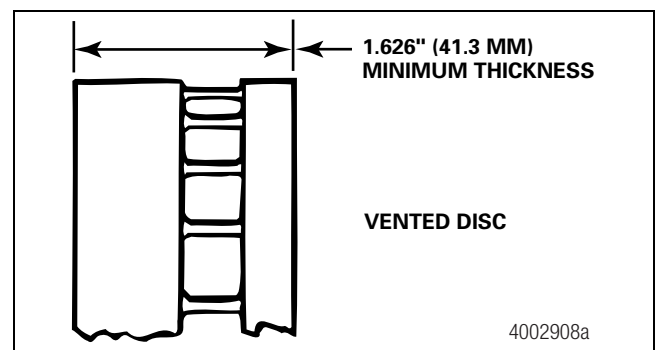

Figure 7.22
- Measure the thickness of the disc, rotor, when you reline the brakes. The disc, rotor, must be at least 1.626-inches (41.3 mm). Figure 7.22. If the thickness of a disc, rotor, is less than the specification, replace the disc, rotor.